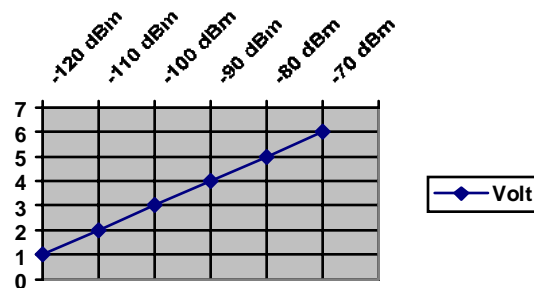

Figure 28 - T855 and T885, RSSI Curve: volt to dBm
- Vary the RF level in 10dB steps and check that the RSSI output voltage (SK1 pin5) changes at a rate of a 10dB/V ($\pm 0.20\text{VDC}$) over the range of -120 dBm to -80dBm (see Figure 28). If the requirement cannot be reached, contact your Dataradio technical support.